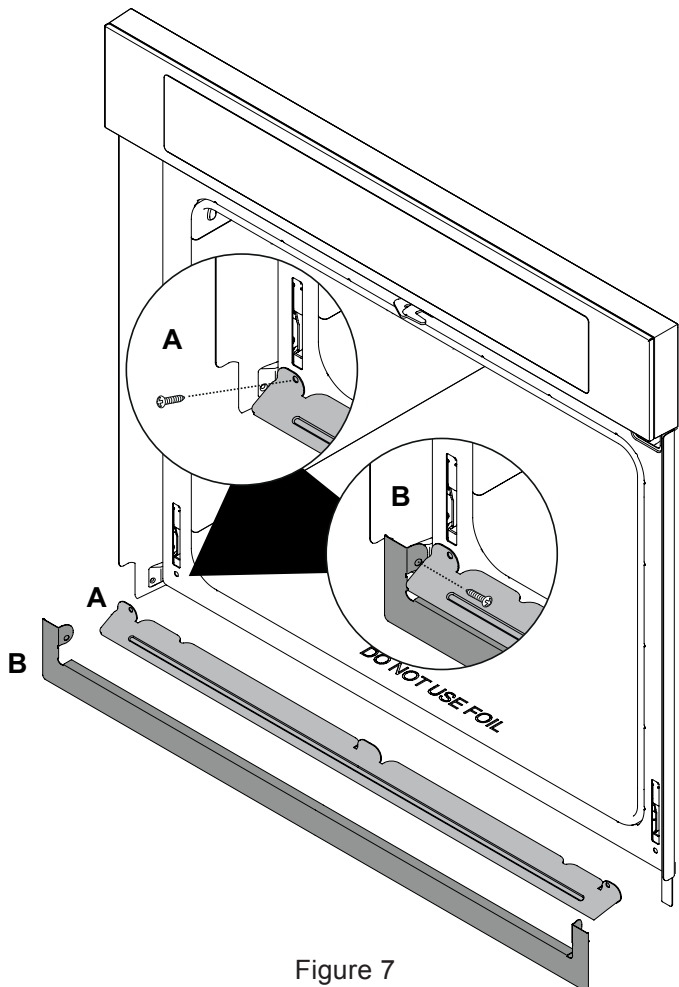

Figure 7
A. Place the air diverter (A) in place as shown in Figure 7. Line up screw locations and attach both ends.
B. Place the color matched trim (B) in place as shown. Line up screw locations and attach both ends.